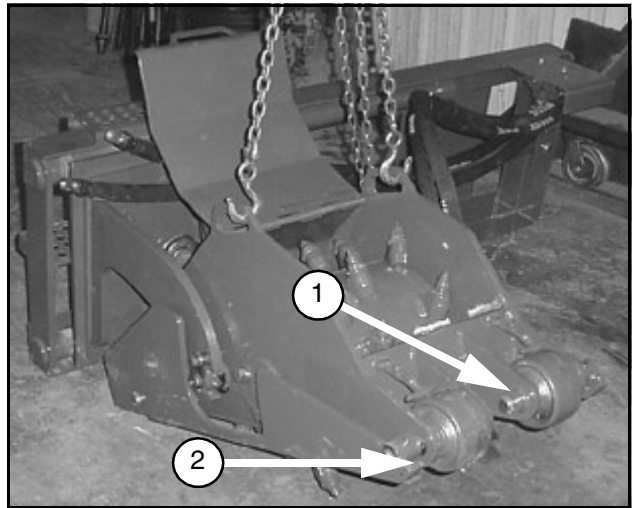

Figure 15.
2. Support the chassis with a hoist so the drum just touches the ground as shown in Figure 15.
3. Remove the inner snap rings (1) from the front wheel pins.
4. Slide out the front wheel pins (2).